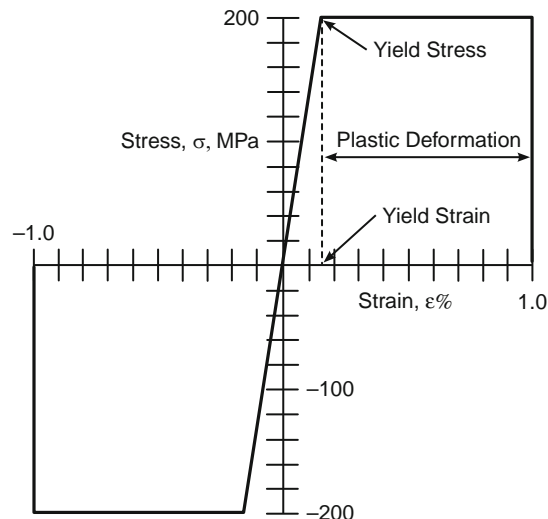

FIGURE 11.11 Simplified Stress–Strain Curves for an Idealized Steel
The stress–strain diagram of an idealized steel¹⁴ looks like Figure 11.11. It also defines some new terms: **yield stress** (or **yield strength**), **yield strain**, and **plastic deformation**.
The **yield stress** is the maximum stress at the limit of elastic behavior in which the specimen returns to its initial length when the load is removed. In the case shown in Figure 11.11, it is 200 MPa. The **yield strain** is the strain corresponding to the yield stress. Plastic deformation causes a *permanent* change in the properties of the steel when it passes beyond its elastic limits. Stretching here is called **plastic deformation**. For this idealized steel compressive properties exactly mirror the tensile ones.
Compare the yield stress in Figure 11.11 of 200 MPa to the theoretical failure value for iron calculated earlier at 100 GPa. In other words, our sample of steel is beginning to fail at a stress about 200 MPa or a factor of about 500 lower than its theoretical maximum. Presumably the failure is initiated at inclusions or the crystalline boundaries rather than by pulling apart the rows of atoms of iron in the steel.
The elastic modulus E defined in Equation (11.3) is just the slope of the stress-strain curve. In Figure 11.11 it is $E = 200 \text{ MPa}/0.0015 = 130 \text{ GPa}$.
Given the stress-strain diagram for steel in Figure 11.11, determine (1) its modulus under compression, (2) its yield strength under tension, (3) its toughness under tension to yield, and (4) its toughness under tension to 1.0% strain. Use appropriate SI units.
Know: Stress-strain curve in Figure 11.11; toughness is area beneath the stress-strain curve.
Can the car's bumper from Example 11.1 absorb the TKE of the 2.5 mph collision assumed there? Or will it plastically deform? What if it is traveling at 5.0 mph? Also, what is the weight of the bumper if its density is $7,850 \text{ kg/m}^3$? Assume the mechanical behavior is described by the stress–strain diagram of Figure 11.11.